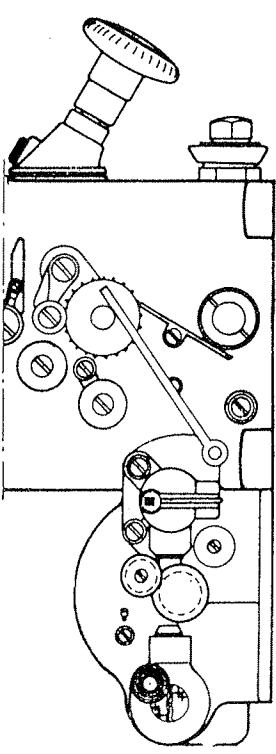

Fig. 5
- Remove the lower pad roller and place ruler or tool on the soundhead as shown in fig. 5.